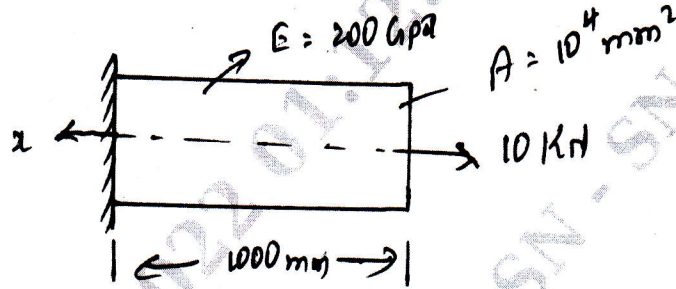

Fig Q5(a)
- 5 a. Fig Q5(a), show a one dimensional bar subjected to an axial loading. Taking it as a two bar element, determine i) Nodal displacement ii) Stress in each element iii) Reaction at the support.